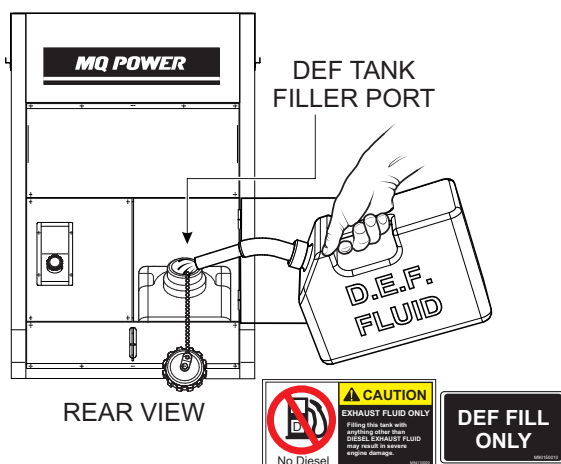

Figure 42. Filling The DEF Tank
2. Remove the cap from the DEF tank filler port (Figure 42).